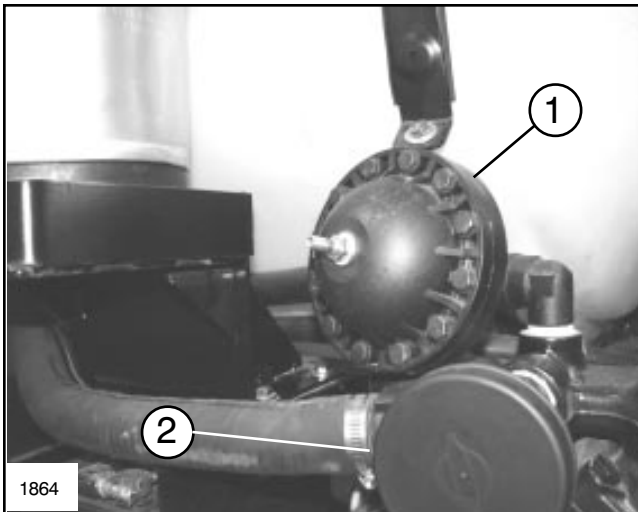

FIG. 5
8. PRESSURE DAMPENER: Smooths pressure pulsation in spray system. See FIG. 5.
9. SUCTION DAMPENER: Prevents Pump cavitation. See FIG. 5.